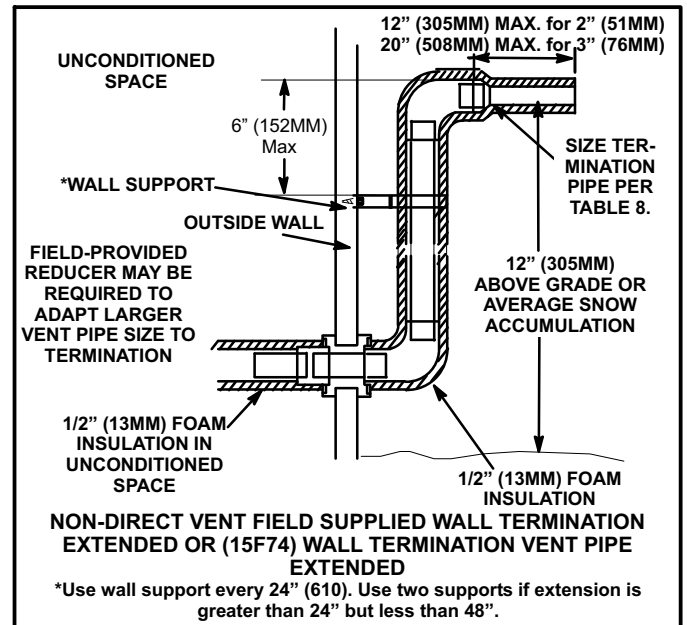

FIGURE 50
- 3 - If exhaust piping must be run up a side wall to position above snow accumulation or other obstructions, piping must be supported every 24 inches (610MM) as shown in figure 50. When exhaust piping must be run up an outside wall, any reduction in exhaust pipe size must be done after the final elbow.